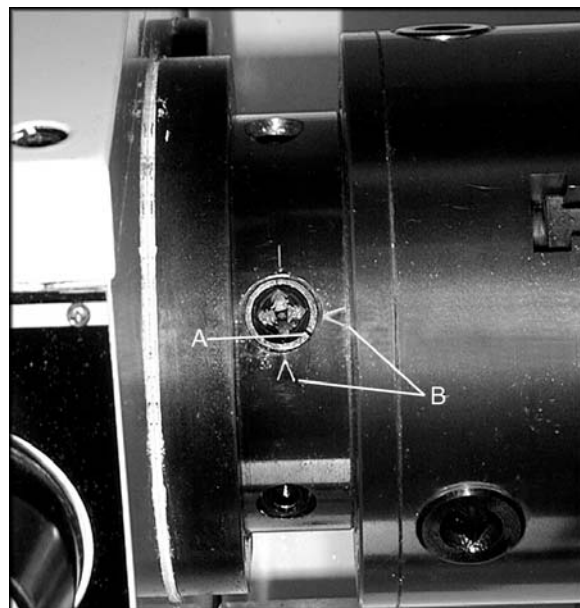

Figure 3
5. Lift the chuck up to the spindle nose and press onto the spindle. Tighten in place by turning the cam locks 1/4 turn clockwise. The index mark (A, Fig. 3) on the camlock should be between the two indicator arrows (B, Fig. 3). If the index mark is not between the two arrows, remove the chuck and adjust the camlock studs by either turning out one full turn (if cams will not engage) or turning in one full turn (if cams turn beyond indicator marks).